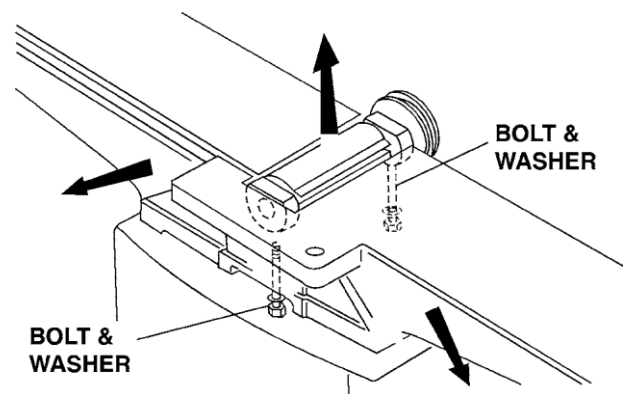

FIGURE 19B
4. Remove the two bolts and spring washers which secure the cutterhead to the base, as shown in Figure 19B